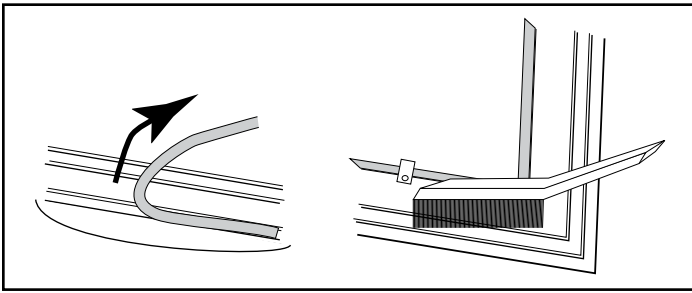

Fig. 45 - Remove gasket then clean channel with wire brush.
1. Remove the existing gasket by grasping an end and pulling firmly. (Fig. 45)
2. Use a wire brush or the tip of a screwdriver to clean the channel of any remaining cement or bits of gasket. Remove stubborn deposits of cement with a cold chisel if necessary. (Fig. 45)